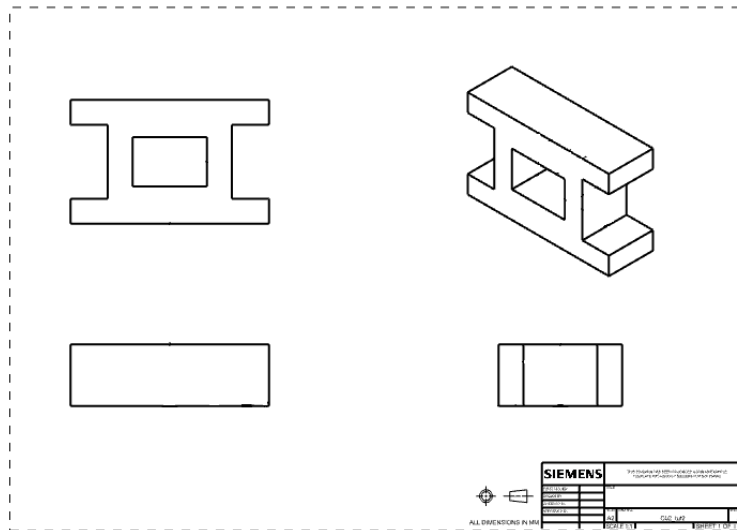

Figure 2-68 The drawing sheet after creating the drawing views
5. Choose the **Base View** tool from the **View** panel of the **Home** tab; the **Base View** dialog box is displayed. Next choose the **Isometric** option from the **Model View to Use** drop-down list of the **Model View** rollout; the floating trimetric view gets attached to the cursor. Click to place this view on right of top view placed earlier. The resulting drawing sheet after generating the drawing views is shown in Figure 2-68.